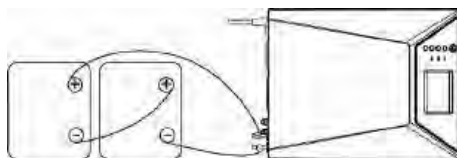

Fig. 4
3) **Multiple batteries in series connection(Refer to Fig. 4):** All batteries must be equal in voltage and amp hour capacity. The sum of their voltages must be equal to the nominal DC Voltage of the unit.